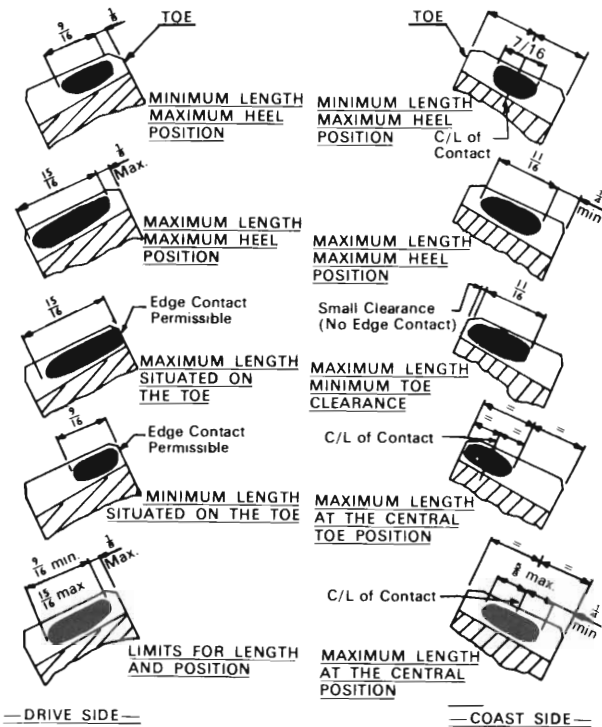

Fig. 33 - Acceptable tooth contact pattern limits chart.
(1) Clean all parts except the wheel bearings with kerosene, mineral spirits, or other similar cleaning fluids. Clean housing tubes with a cleaning cloth by inserting a stiff wire from ends of tubes into carrier section, and withdraw cleaning cloth from the centre outward. Wipe wheel bearings with clean, lintless cloth.
(2) The two differential bearing cup contact areas in the carrier should be smooth and flat, without raised metal either in the contact areas or the edges of the machined surfaces. The bearing caps should also have undamaged machined surfaces, and be free from raised metal edges along both sides and also around the bolt holes. In the drive pinion section of the carrier, the bearing cup bores should be smooth and flat. Raised metal on shoulders of the bores incurred in removing the cups, should be flattened by use of a flat nose punch.
(3) The axle drive shaft bearing and oil seal bores at both ends of the housing should be smooth and free from rust or damage.
(4) Axle drive shaft splines should be straight and free from excessive wear. The shaft bearing and retainer area must be smooth and free from raised metal. When necessary to clean this portion remove only the raised metal and use crocus cloth to *polish the area without reducing the diameter of the shaft*.
(5) If the axle shaft bearings were removed from the shaft, install bearings using new retaining collars as these parts are unfit for further use after removal (*refer Para. 3*).
(6) Taper roller bearing cone assemblies should have a smooth, unbroken surface on the cone and both shoulders. The rollers should also have smooth unbroken surfaces. The roller retainer should be free from damage and cracks. Bearing cups should have a smooth unbroken surface.
(7) Differential pinion gears and side gears should have smooth teeth with a uniform contact pattern, without excessive wear or broken surfaces. The hub surfaces of side gears should be smooth and the splines should be straight and without excessive wear. The outer surfaces of the pinion gears should be smooth and bright. Thrust washers should be smooth and unbroken.
(8) Inside the differential case, the machined areas should be polished, without surface imperfections. The pinion shaft bore in the case should be round and smooth. Both ends of the pinion shaft should also be round and without excessive wear.
(9) Drive gear teeth should have a uniform contact pattern and have smooth unbroken surfaces with out excessive wear. The pinion teeth should have a similar appearance (*see Fig. 33*). The machined surface of the pinion shaft and back face of the head should be undamaged and without wear.
(10) Use new gaskets and oil seals in assembly.